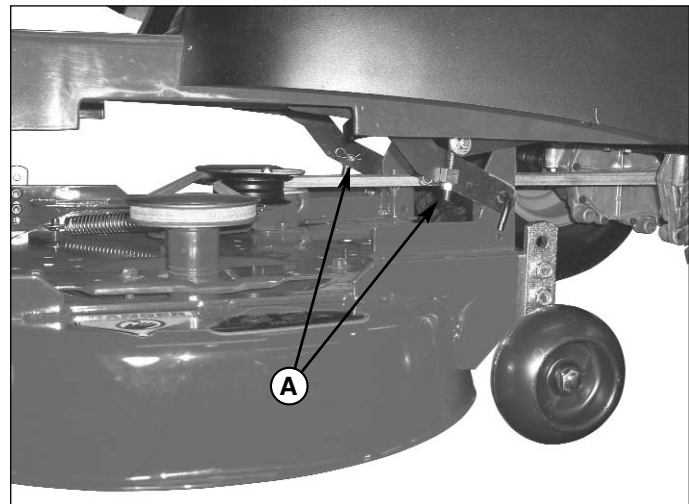

Figure 29. Mower Leveling - Side-to-Side
5. Use the rear leveling nuts (B, Figure 29) to adjust the side-to-side leveling of the deck. Repeat step 4 if necessary.